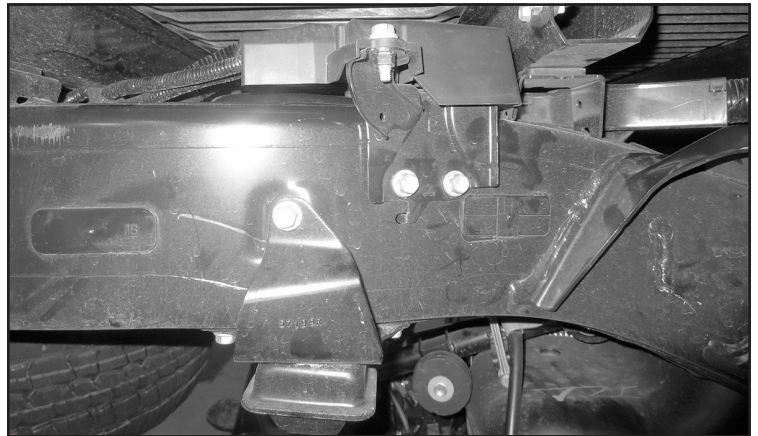

FIGURE 4 - STEP 6
6. Remove the factory rear bumpstops from the frame. Save hardware. **SEE FIGURE 4**